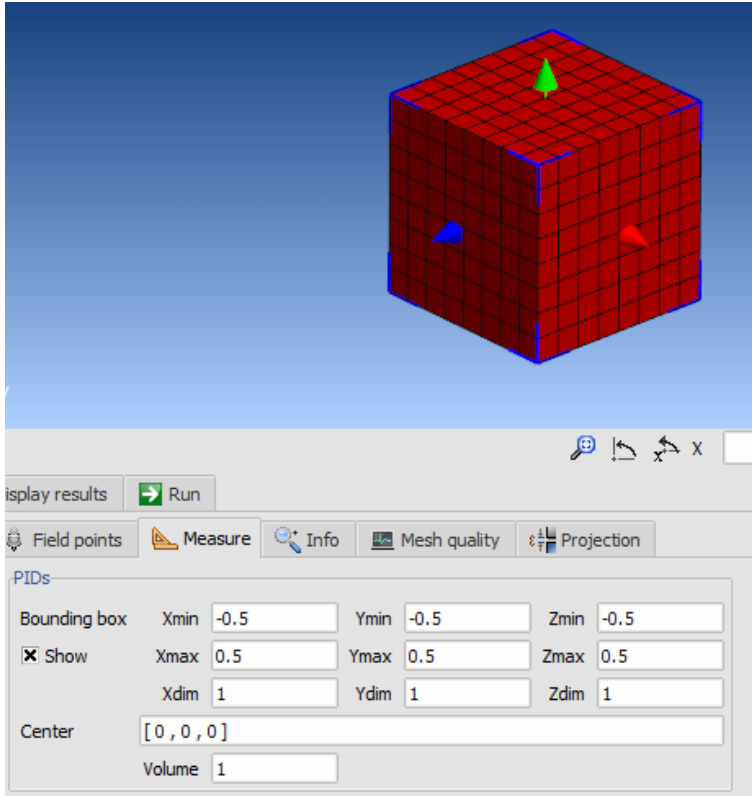

Figure 11.4: Dimensions of a selected PID
4. When selecting one or more pid domains, the dimensions of the bounding box is provided for each axis, including minimal, maximal coordinate and local dimension. The geometrical center of the selection is provided as well as the integrated volume, surface or length (for volume, surface or edge elements) of the selection. This is shown in figure 11.4.